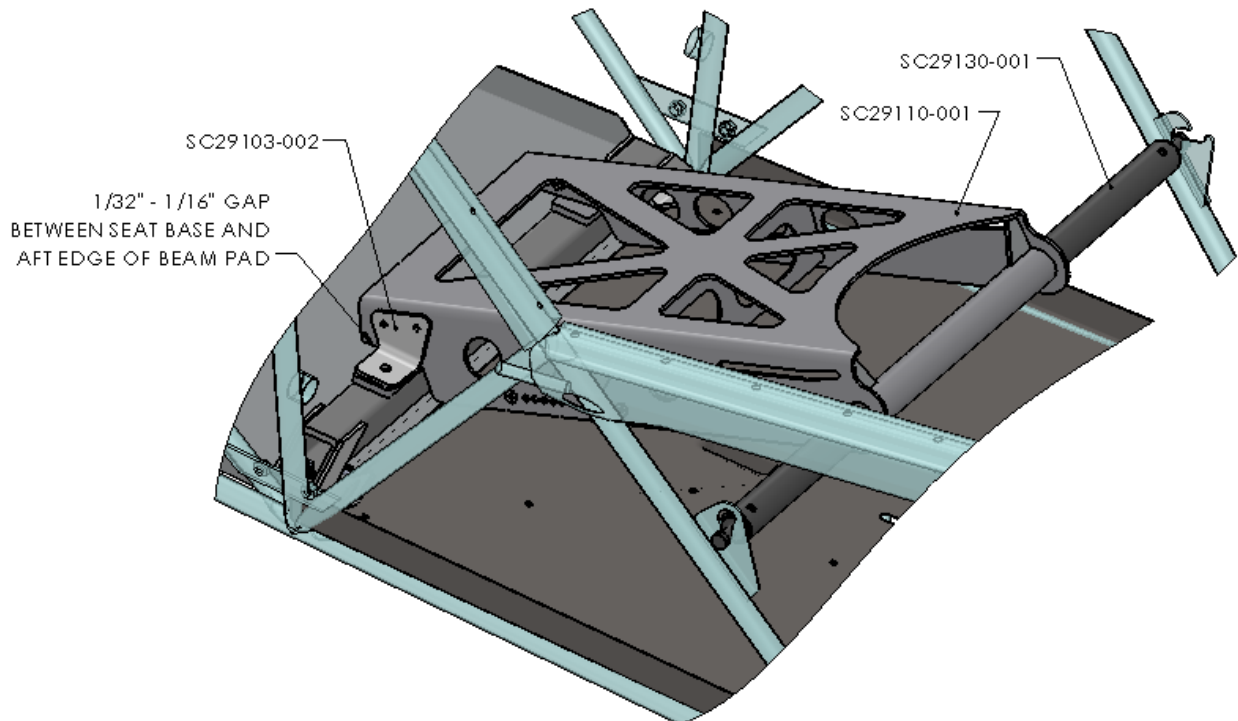

Figure 5 – Seat Base Match Drilling
- Set the attach brackets (SC29103-001/-002) on the beam (SC29120-001) and up against the seat base (SC29110-001), as shown in Figure 5. The -001 part goes on the aircraft left side, and the -002 goes on the aircraft right. The seat base should be centered left and right in the fuselage, and the brackets should be centered fore and aft on the pads of the aft seat beam. The brackets should rest on the pads of the beam, but to avoid contact between the base (SC29110-001) and the beam (SC29120-001), place a shim under the seat base so there's a gap of 1/32"-1/16" between the aft edge of the pads of the aft seat beam and the seat base. With parts in place, either mark the hole locations of the brackets to the seat base, or clamp the brackets to the seat base.